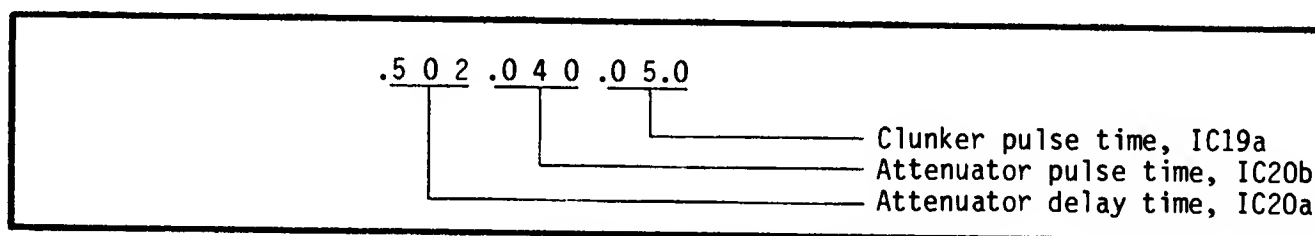

Fig. 7.14 Monostable Timing Display
7.7.5.6.1 Activate special function 90. The frequency display will show the monostable pulse lengths, as shown in Fig. 7.14.